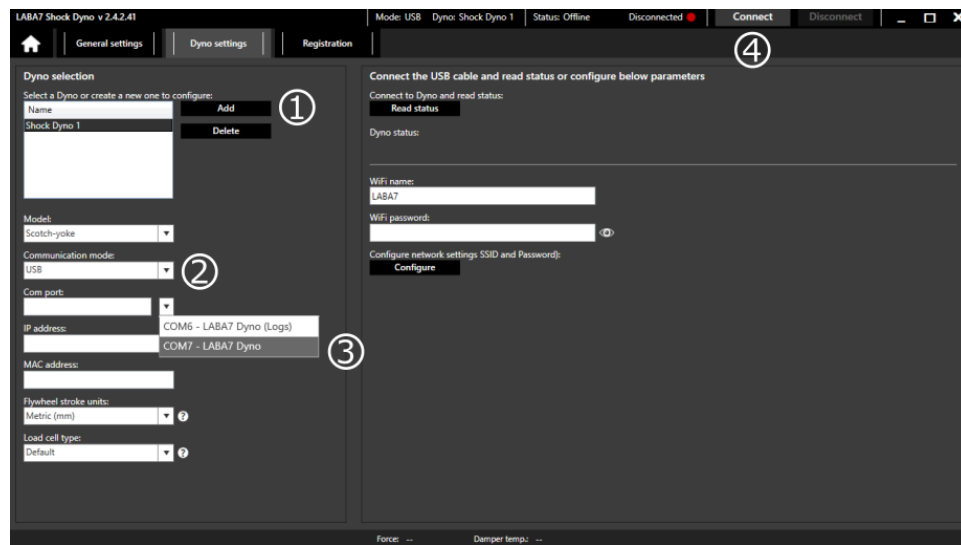

Figure 17
5. Add a new Dyno model by clicking Add button (Figure 17 – Step 1).
7. Select Communication Mode by clicking on the drop-down menu (Figure 17 – Step 2):
10. From 2 newly appeared com-ports select **COM7 - LABA7 Dyno** .(Figure 17 – Step 3).
11. Press Connect (Figure 17 – Step 4).